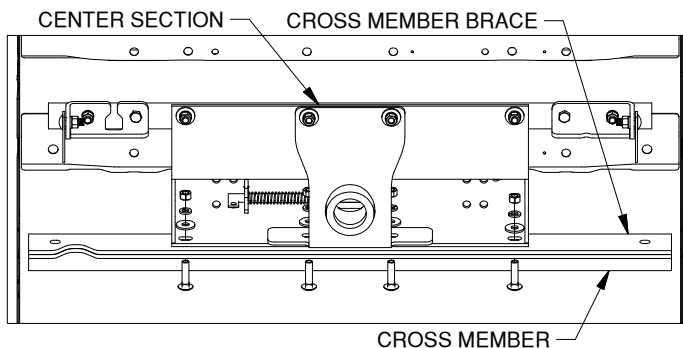

Figure G2: Looking up under truck bed (frame not shown). PAGE 5 of 8
- 3. Attach front cross members.** Slide the front cross member brace and the front cross member rearward against the center section. Line up the square holes in the cross members with the slots in the center section. Secure the cross member parts to the center section using the 1/2" x 2" carriage bolts, flat washers, lock washers, and nuts, as shown in Figure G2.